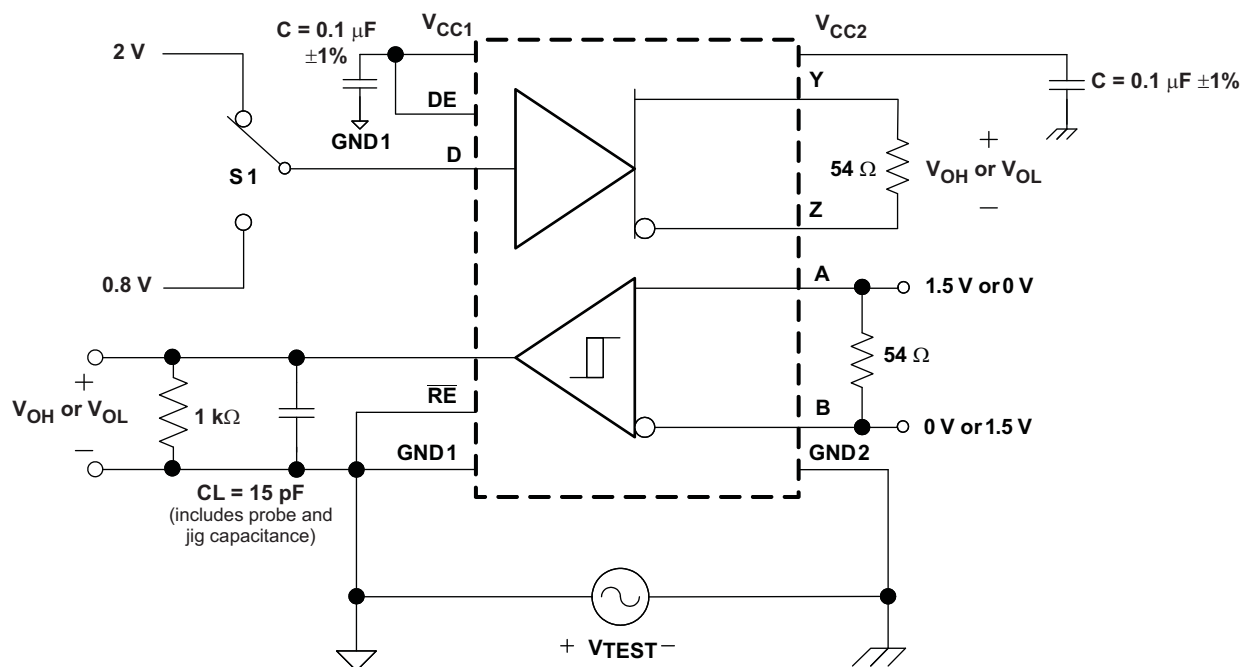

Figure 13. Full-Duplex Common-Mode Transient Immunity Test Circuit
- Deleted $V_I = V_{CC1}$ or 0 V from CMTI spec. Conditions statement. Added "Figure 13" 3